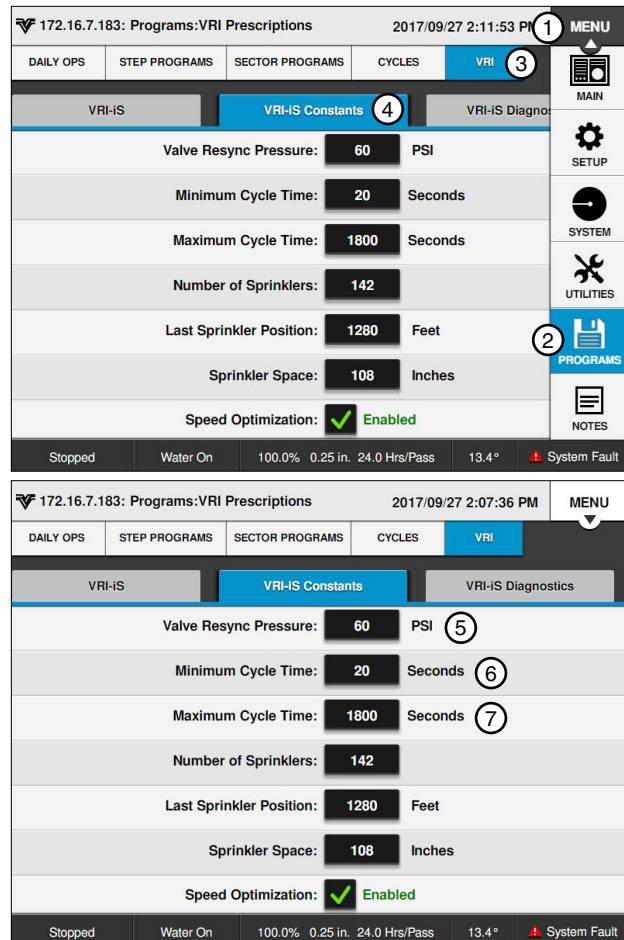

Figure 174-1 1. Menu
1. Push **Menu, Programs, VRI, and VRI-iS Constants** to display the VRI-iS Constants screen. Refer to Figure 174-1.
1. Push **Menu, Programs, VRI and VRI-iS Constants** to display the VRI-iS Constants screen. Refer to Figure 174-1.